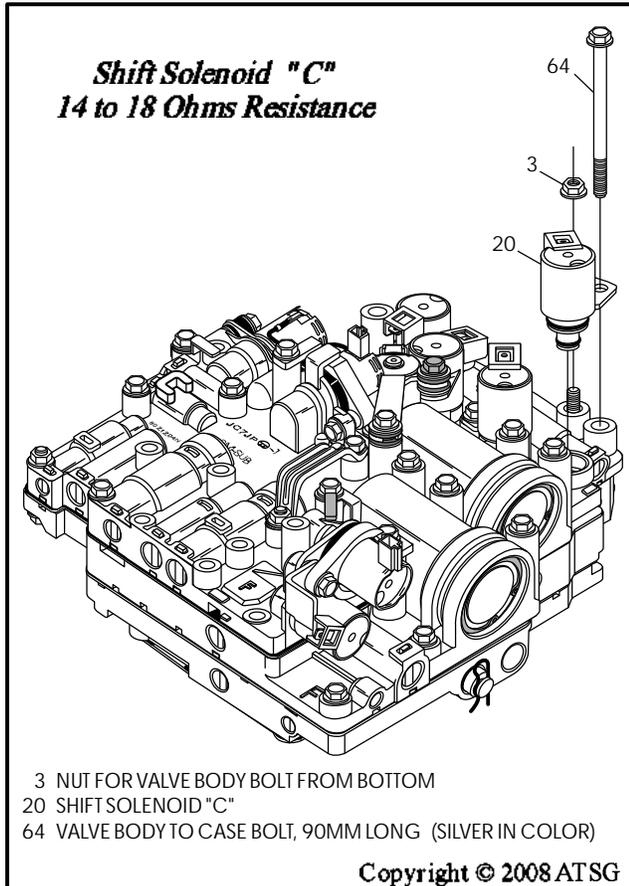

Figure 183
72. Install new "O" rings, lube with small amount of proper ATF, and install shift solenoid "C" into the valve body, as shown in Figure 183.
73. Shift solenoid "C" is bolted in the valve body using a nut on the 67mm bolt from the bottom and one 90mm long valve body to case bolt (Silver in color), as shown in Figure 183.